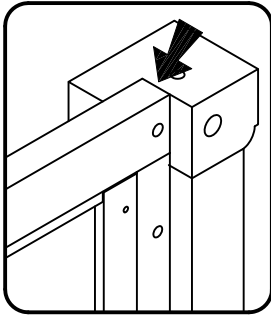

Figure 2
Holding the top of the posts flush with the top of Headboard (A), attach Headboard (A) and Stretcher (G) to posts with Head Cap Bolts. (See Figure 2)